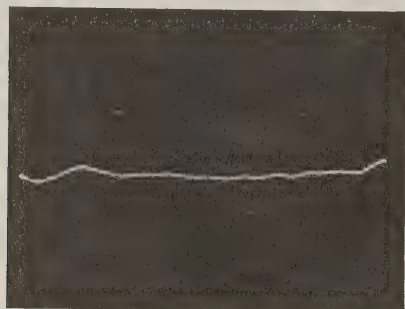

Figure 4-15. Typical Display
- Adjust RF Plug-in POWER LEVEL control and oscilloscope controls for display similar to typical display shown in Figure 4-15.